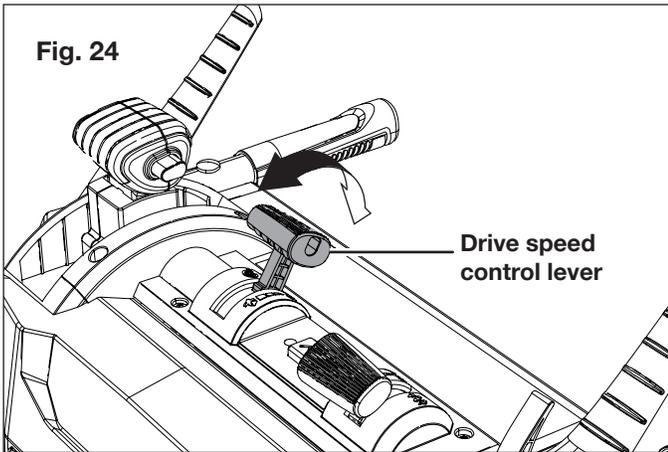

Fig. 24
5. Use the drive speed control lever, adjust the speed for a comfortable pace (Fig. 24).